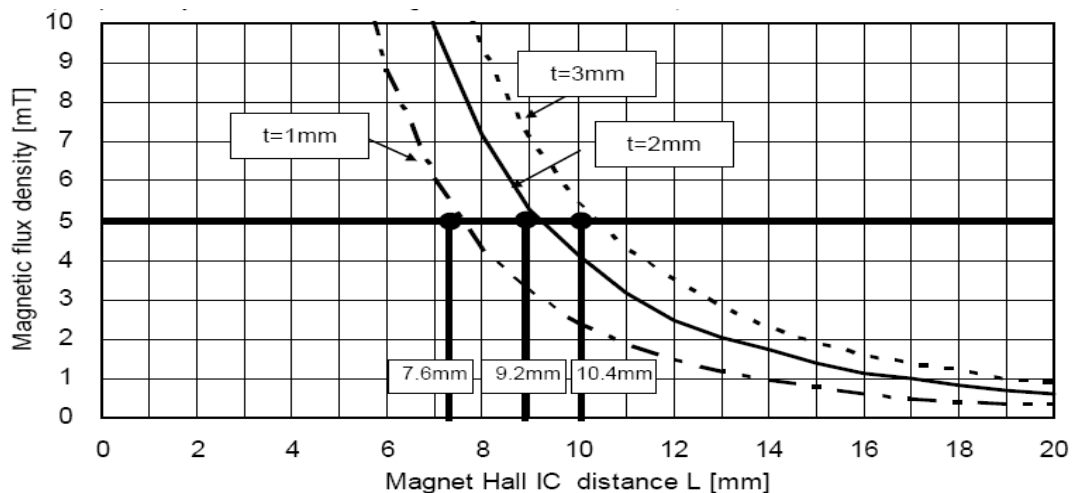
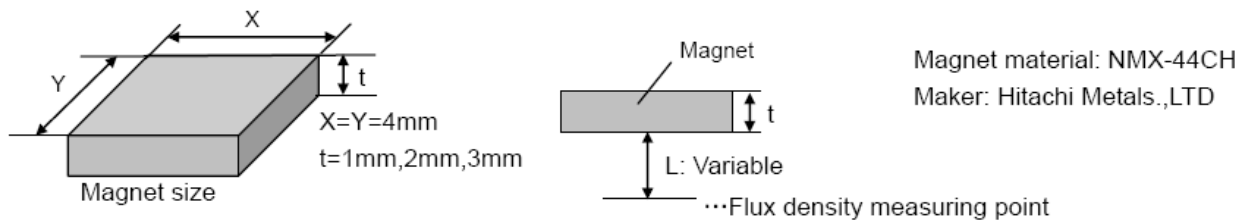

Figure 8. Magnet Hall IC Distance
Figure 9. Magnet Dimensions and Flux Density Measuring Point
Of the two representative varieties of permanent magnet, neodymium generally offers greater magnetic power per volume than ferrite, thereby enabling the highest degree of miniaturization. Thus, neodymium is best suited for small equipment applications. Figure 8 shows the relation between the size (volume) of a neodymium magnet and magnetic flux density. The graph plots the correlation between the distance (L) from three versions of a 4mm X 4mm cross-section neodymium magnet (1mm, 2mm, and 3mm thick) and magnetic flux density. Figure 9 shows Hall IC detection distance – a good guide for determining the proper size and detection distance of the magnet. Based on the operating point max 5.0 mT, the minimum detection distance for the 1mm, 2mm and 3mm magnets would be 7.6mm, 9.22mm, and 10.4mm, respectively. To increase the magnet's detection distance, either increase its thickness or sectional area.